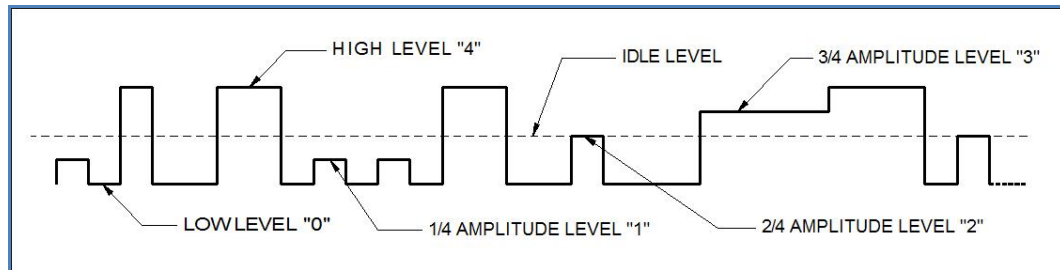

Figure 3-69, PRBS 5 Level Pattern Example
1. Push the Pulse button in the Function group keys. The pulse dialog box, as shown in Figure 3-69 will be displayed.